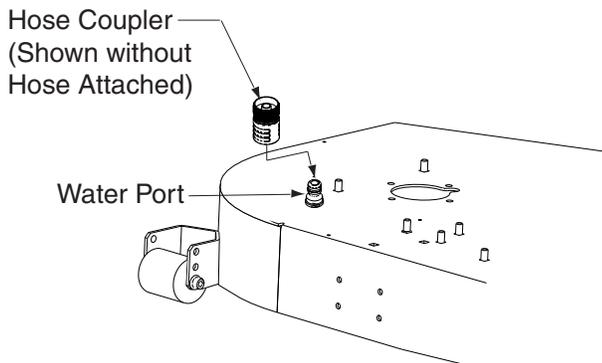

Figure. 6
- e. Thread hose coupler (packaged with this manual) onto the end of your garden hose. See Figure 6. Attach the hose coupler to the water port on your mower deck’s surface. See Figure 6. Turn the water on.